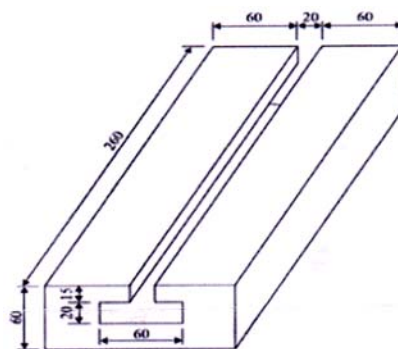

Fig. 7a
- b) A T-slot is to be cut in C.I. slab as shown in fig.7a. Estimate the machining time. Take cutting speed 25 m/min, feed is 0.25 mm/rev. Diameter of cutter for channel milling is 80 mm. Assume suitable data if required with justification. [10]